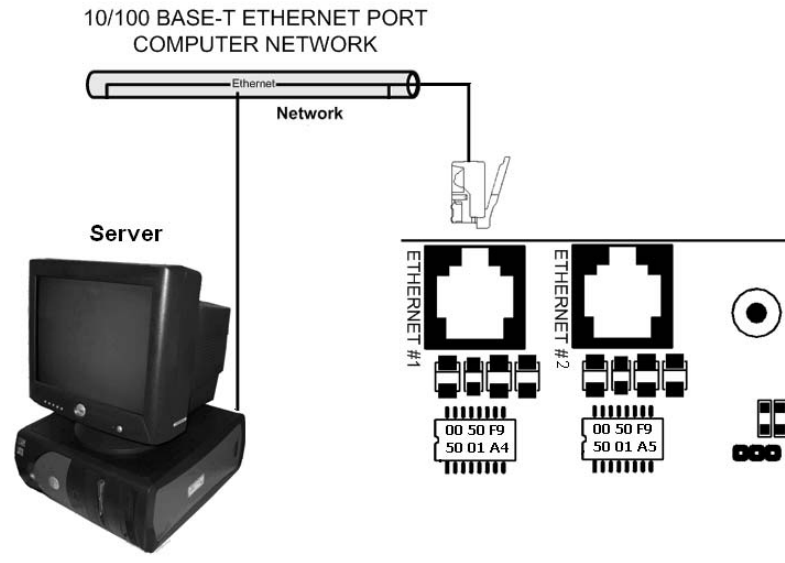

Figure 9. Ethernet #1 Connection to KT-NCC
1. Connect the cable from the KT-NCC to the network hosting the server application. Refer to Figure 9 above.